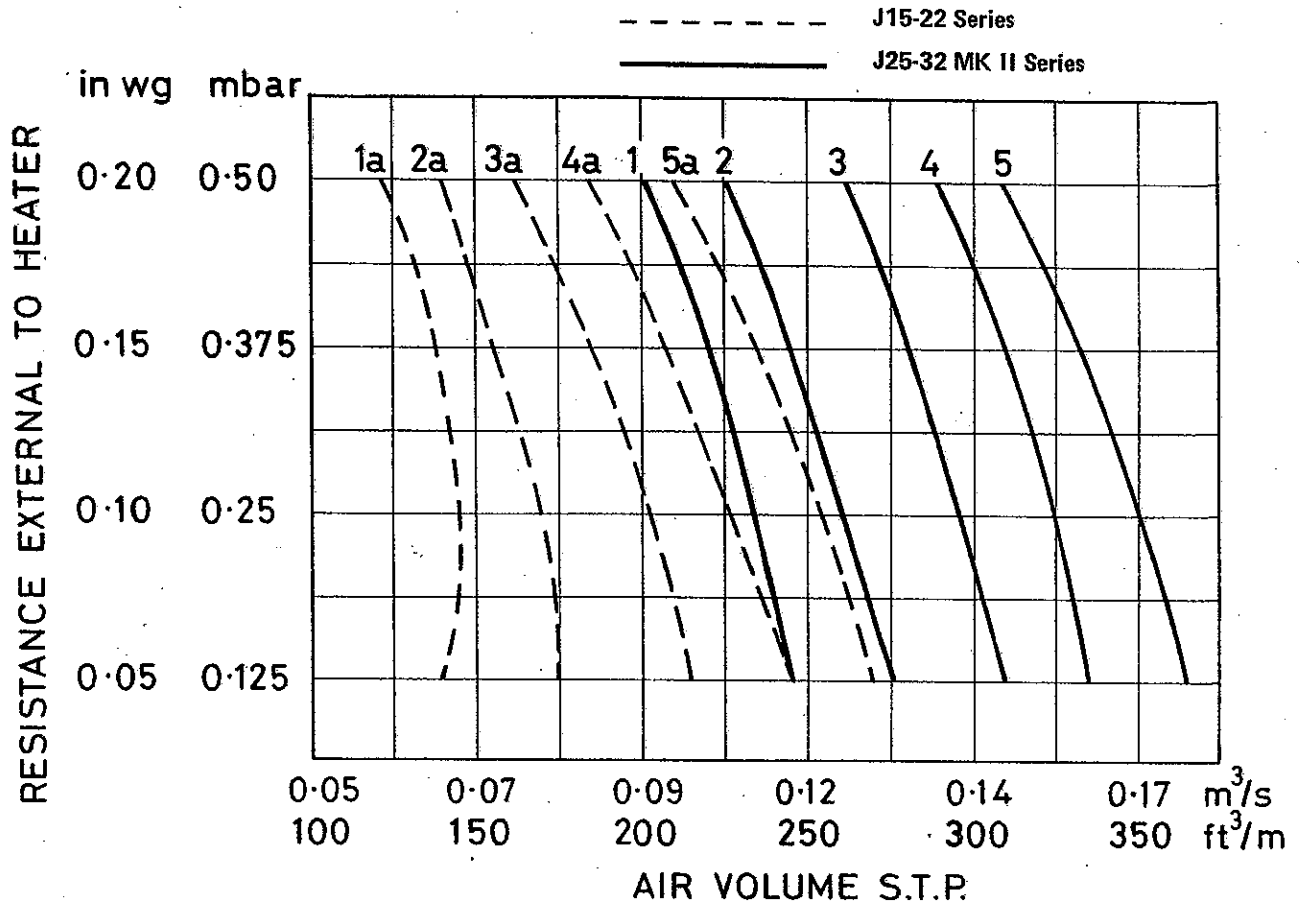

Fig. 5
- ii) Turn Balancing Knob to a number corresponding to the fan curve selected from Fig. 5. Fan should run at selected speed.